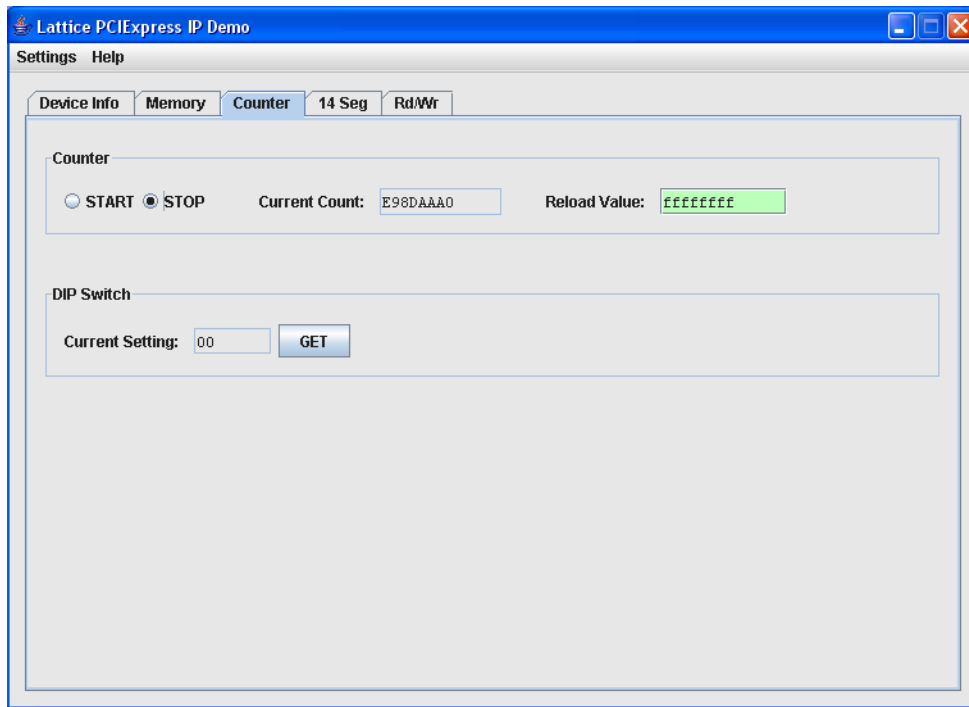

Figure 6.4. PCI Express Basic Demo Counter Page
- Click on the **Counter** tab to open the Counter page. The Counter page allows you to control a 32-bit down counter in the FPGA hardware. The page is illustrated in Figure 6.4. Table 6.5 provides descriptions of the page's features. The counter is driven by the 125 MHz clock that feeds the IP. The counter is started by selecting the Start radio button. Counting begins from the value entered into the Reload Value field. The current count value is displayed in the Current Count field.